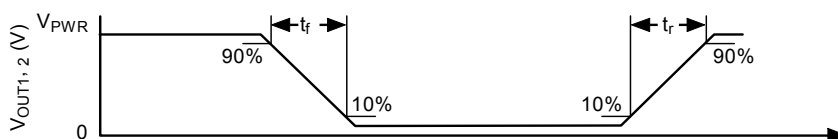

Figure 6. Output Switching Time
23. Rise Time is from the 10% to the 90% level and Fall Time is from the 90% to the 10% level of the output signal. See Figure 6, page 9.